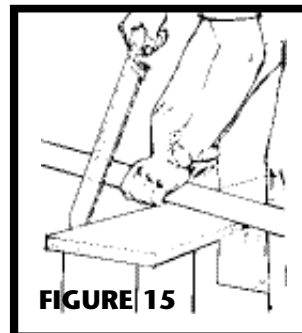

FIGURE 15
8. Refer to Figure 15. Cut tubing, keeping cut square.
3. Refer to Figure 15. Connect the red striped wire of the 2-conductor low voltage cable to the unused terminal screw on the inlet. Connect the remaining wire to the black pigtail wire. Cap off both wires using wire nut (supplied).